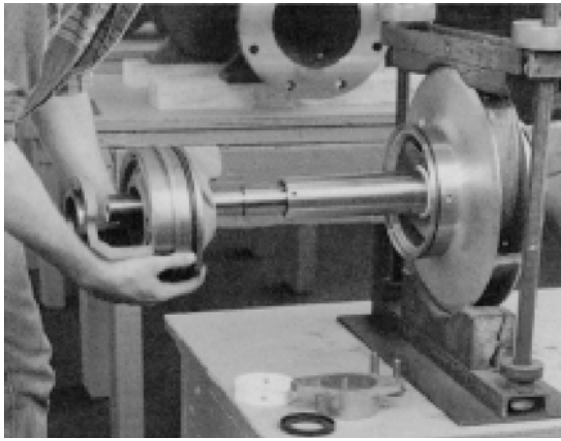

FIGURE 20 – REMOVING STUFFING BOX
7. Slide both stuffing boxes (3-073-9) off of the shaft, working deflector rings (3-136-9) off the shaft at the same time (See Figure 20).